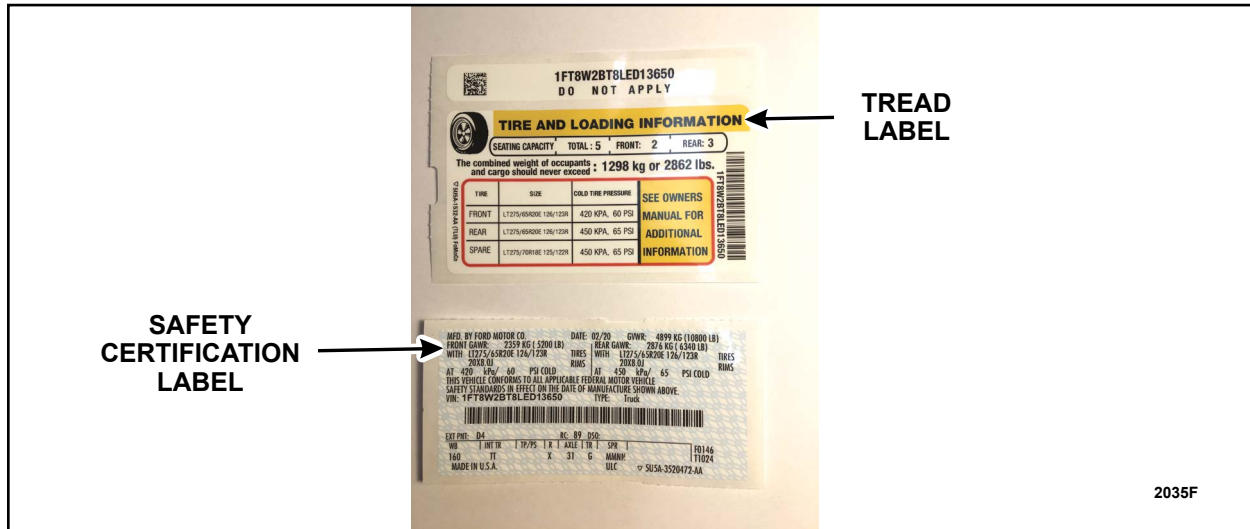

FIGURE 1
2. Confirm that the VIN on the respective *new* labels match the VIN on the vehicle. See Figure 1.
35. Note orientation of the labels. Refer to Figure 1.